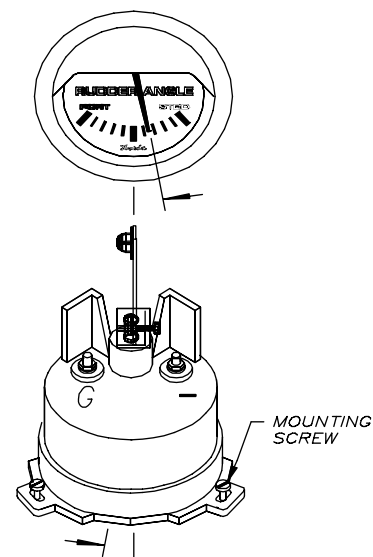

Figure 4
4.) The last step in this installation is fine adjustment. This is to center the gauge's pointer (see Figure 4). Only a small angular adjustment, if any, should be necessary if your installation was done correctly. Be sure the rudder is exactly amidships. With the sender's mounting screws loosened, rotate the sender slightly to PORT or STARBOARD until the gauge's pointer indicates amidships. Retighten the mounting screws. Your installation is now complete.